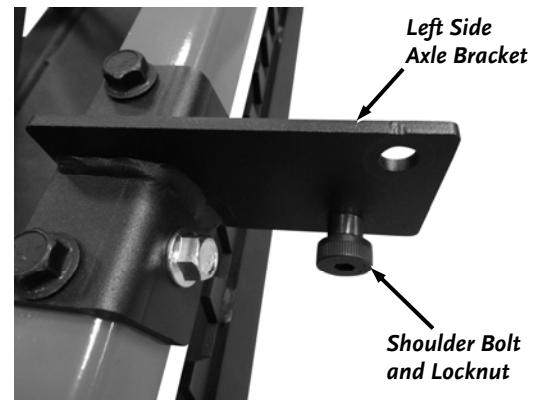

Figure 19
21. Install a 1/2" X 3/8"L, 3/8-16 Shoulder Bolt (head facing out) and flange Locknut to the left side Axle Bracket using a 1/4" Allen Wrench and 9/16" Wrench (**Figure 19**).